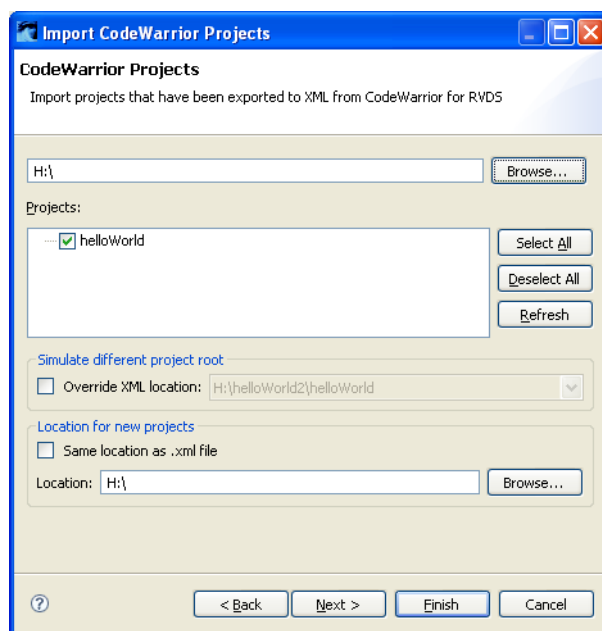

Figure 3-11 Importing a CodeWarrior Project
4. Click **Browse...** to select the folder containing the .xml file, see Figure 3-11 on page 3-11.